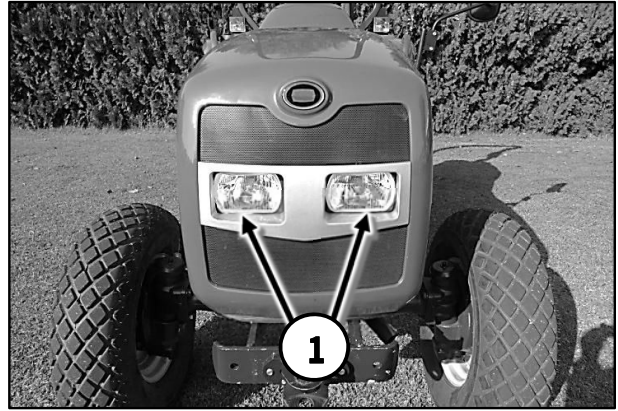

Figure 2-16
There are headlights located in the front of the tractor hood, dual element road lights (1) in Figure 2-16. The key switch must be in the "ON" position for the lights to operate.
Road Lights Switch (2) in Figure 2-16.
Road Lights High Beam Switch (3) in Figure 2-16
NOTE: The ignition key must be in the "ON" position for the lights to operate. For High Beams to be activated, the Road light switch (2) in Figure 2-16, must be in the front position.